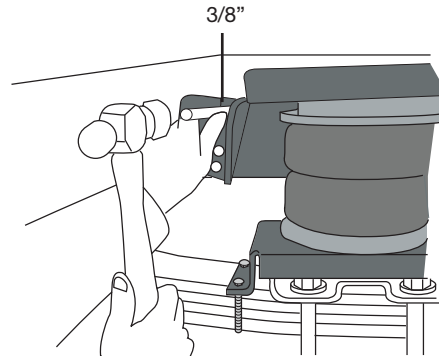

Fig. 10
2. Using the upper bracket as a template, center punch and drill one 3/8" locator hole through the frame at one of the top bolt holes (Fig. 10).